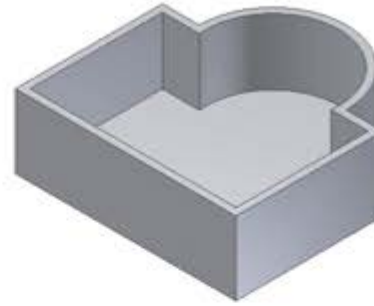

Figure 9–56
5. When creating a shell, how can you leave one side of the part open, as shown in Figure 9–56?